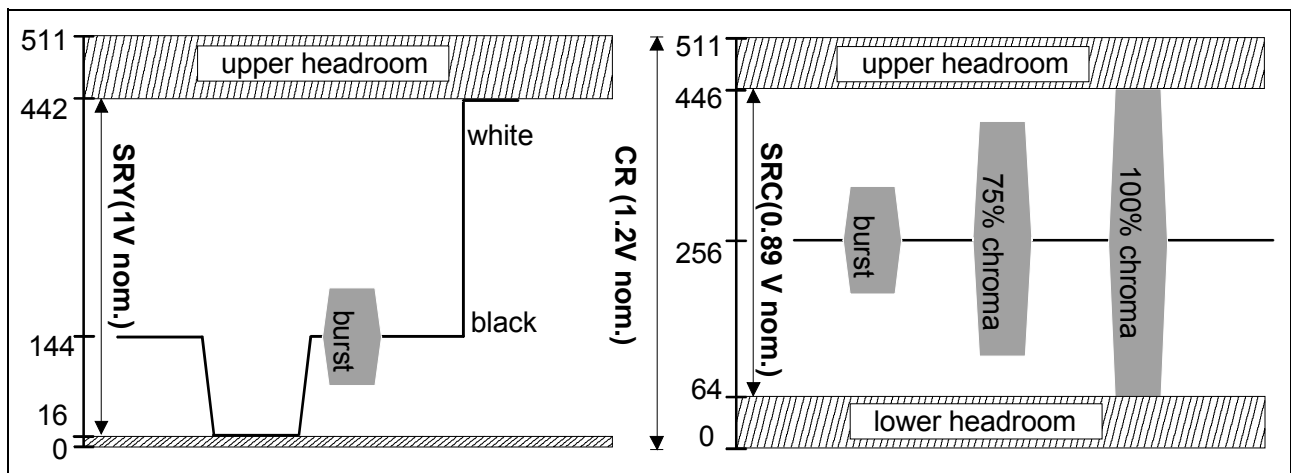

Figure 5-3 CVBS, Y and C amplitude characteristics
The conversion range (CR) is bigger than the signal range (SRY, SRC) leaving a headroom for overshoots (**Figure 5-3**)